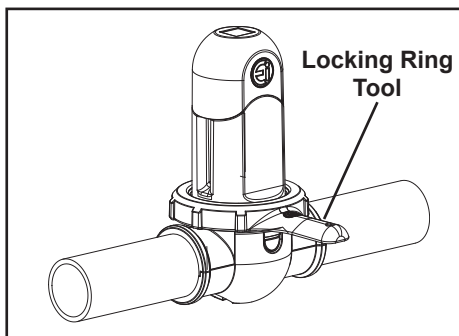

Figure 27. Undo Locking Ring
4. Undo the locking ring. If required, use the locking ring tool provided (see Figure 27).